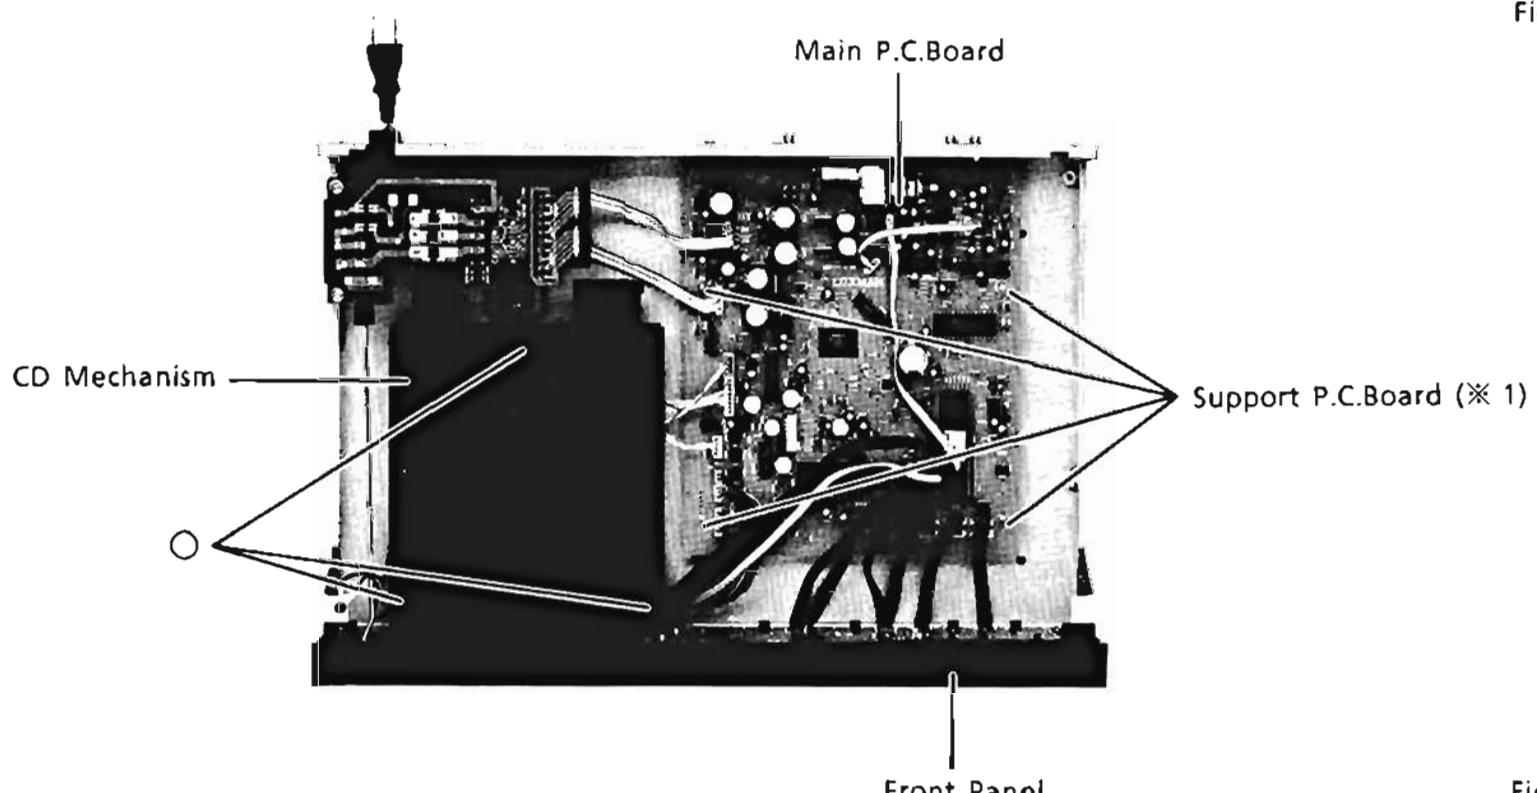
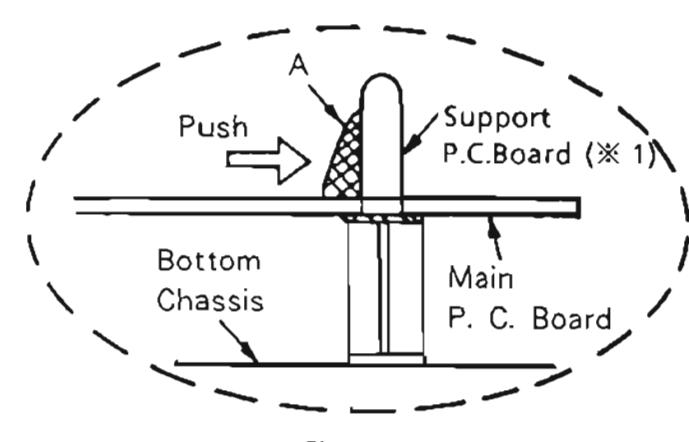

Figure 2
Figure 4
- (3) Remove three screws marked "O" as shown in Figure 2.
- (4) Disconnect all wires from the CD Mechanism.
- (2) Remove four Supports P.C.Board (※1) from the Main P.C.Board as shown in Figure 2, by pushing the point "A" as shown in Figure 4.
- (3) Disconnect all connectors from the Main P.C.Board.